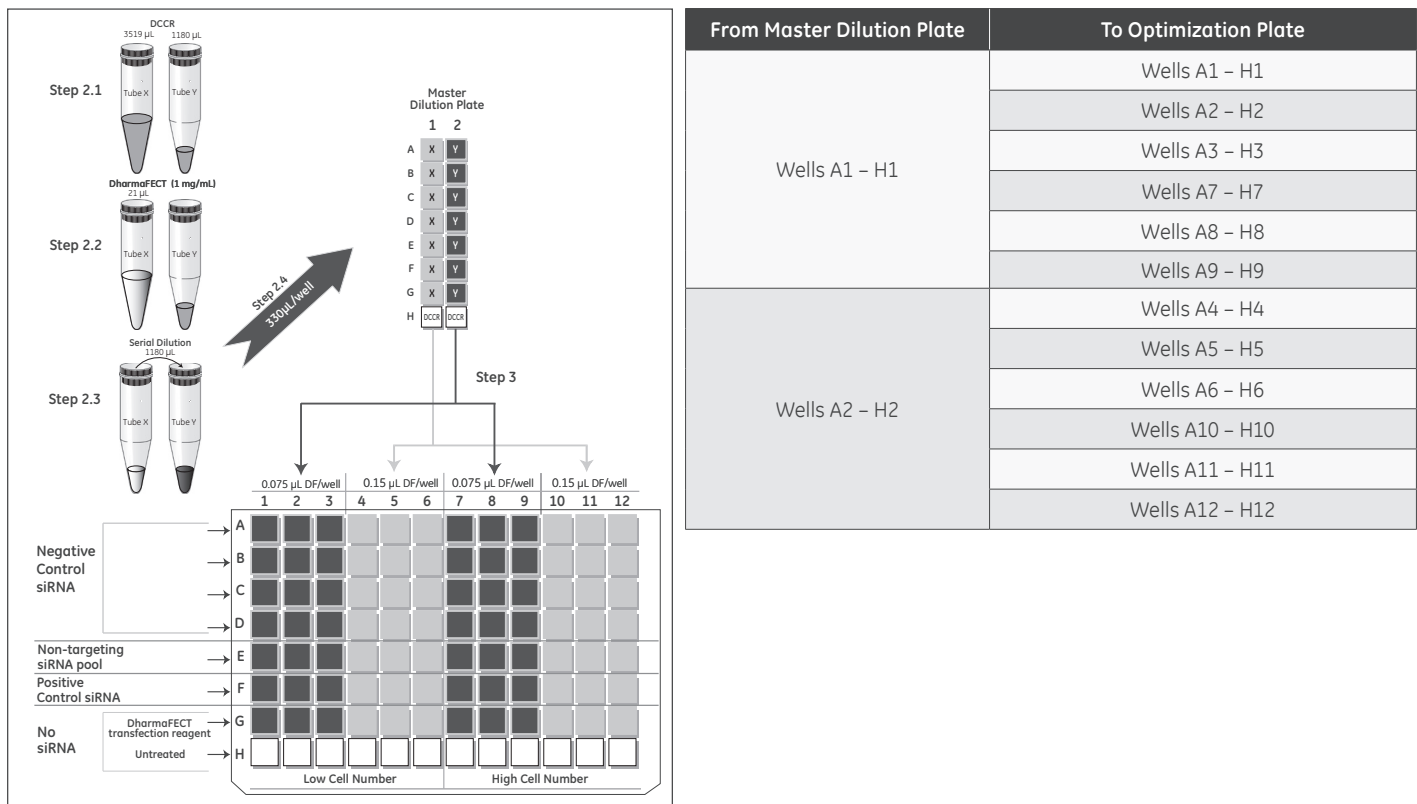

Figure 2. RTF Optimization Plate Rehydration Guide.
The recommended experimental format for RTF Optimization Plates is shown in Figure 2. The Dharmacon DharmaFECT transfection reagent that has been predetermined to be optimum for the cells (from use in conventional transfection experiments) is tested at two volumes with two cell numbers per well. An alternate method could assess four DharmaFECT reagent volumes with a single cell number per well.
The instructions below describe how to construct the plate format shown in Figure 2. All manipulations should be performed under sterile, RNase-free conditions. The final siRNA concentration during transfection is 50 nM when using this protocol.
2. Prepare the Rehydration Solution in two 15 mL tubes as described below and in Figure 2. Tube X will prepare reagent for a final volume of 0.15 μL DharmaFECT reagent per well and Tube Y will prepare reagent for a final volume of 0.075 μL DharmaFECT per well.
3. Rehydrate wells of RTF Optimization Plate by transferring 25 μL of DCCR or Rehydration Solution from the appropriate wells of the Master Dilution Plate as described below and in Figure 2.